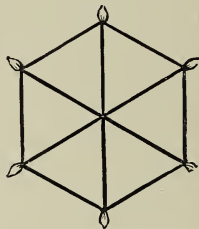

Fig. 14.
2. *Dropping firework devices.*—Some of the prettiest balloon firework effects are those which do not light until they have separated from the balloon and fallen through a varying distance, according to your arrangement. I shall not expect to find that you think it necessary to inquire how all this may be managed after what I have written about Bickford fuse and quickmatch. However, some few remarks about a certain convenience of arrangement may not come amiss. Suppose, then, that you have launched your balloon carrying several devices—we will assume it to carry six. You want the first of these devices to part company with the balloon, and shortly after ignite in falling, all to time. You want the successive five to part company with the balloon also to time. Obviously a length of Bickford fuse will accomplish all this, but there are inconvenient as well as convenient ways of arranging all. A convenient way is this (Fig. 14).